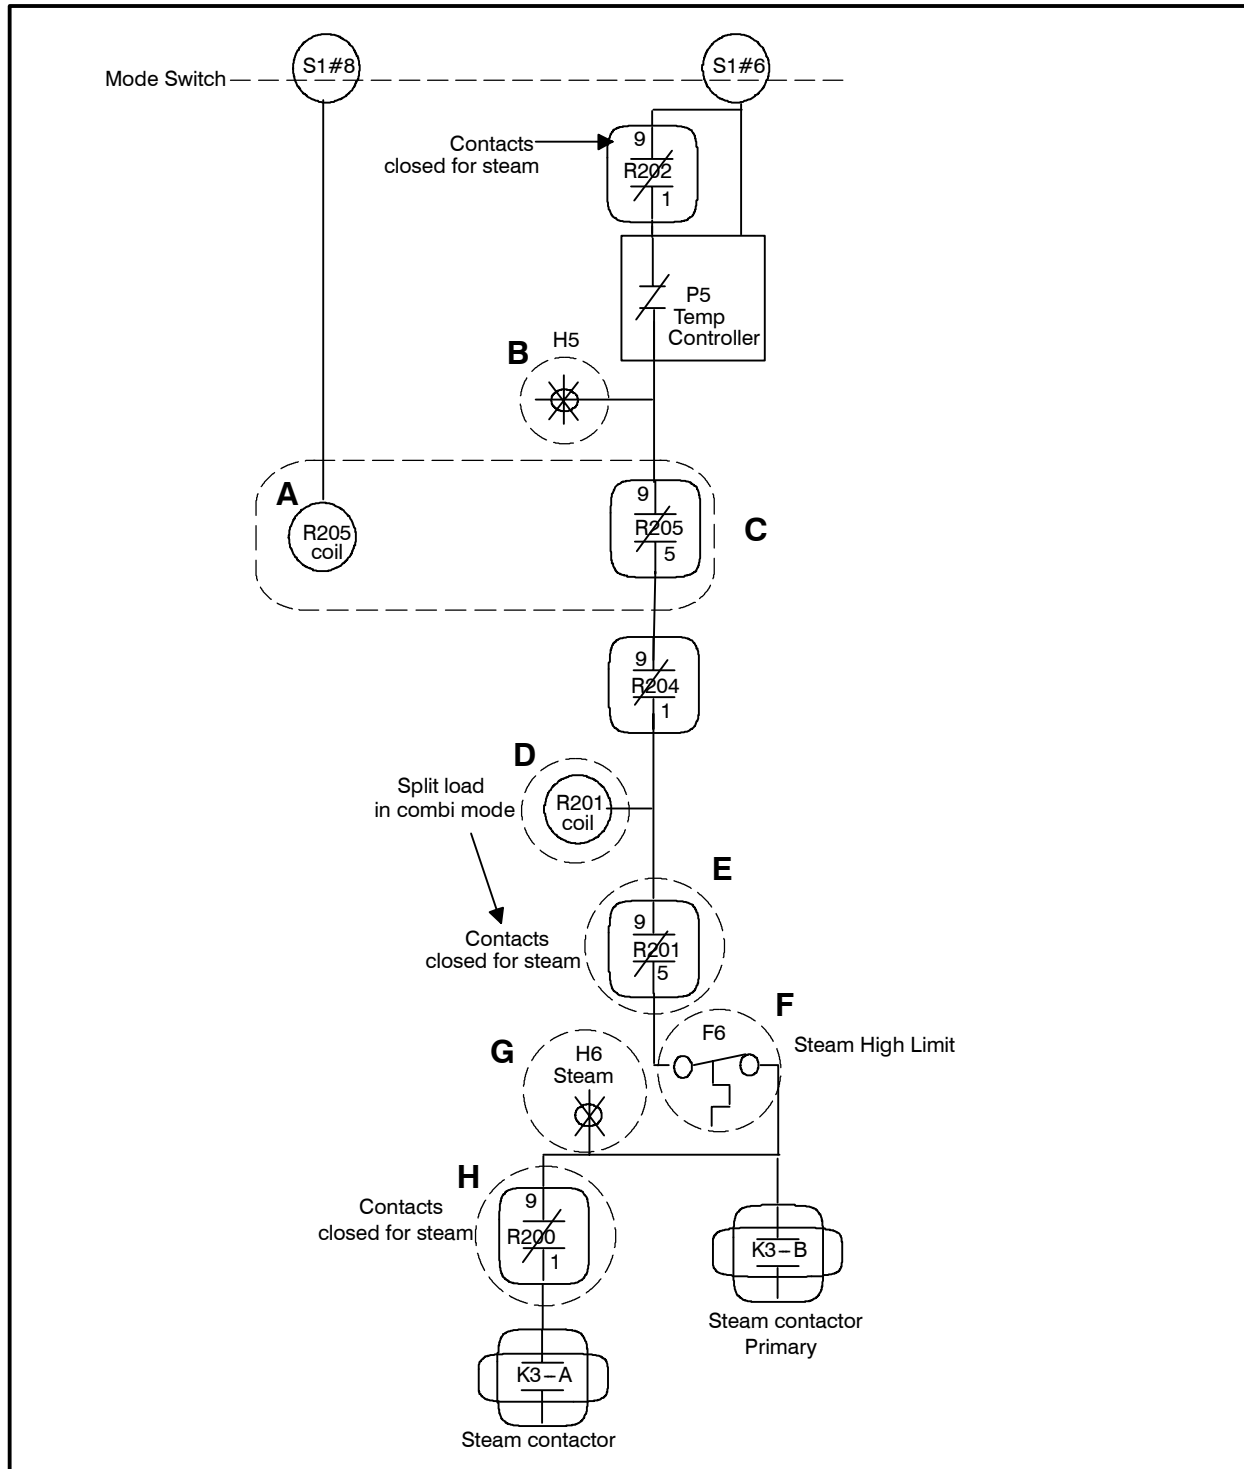

FIGURE 3
4. Check that R202 relay contacts close. See FIGURE 3, location (B).
5. If the hot air light is not lit (H5) on P5, check P5 temp controller for voltage. See FIGURE 3, location (B).
6. Check that relay R205 contacts 9 to 5 are closed. Check coil and contacts for proper operation. See FIGURE 3, location (C).
7. Check F6 high limit. See FIGURE 3, location (F).
8. Check that R204 contacts 9 to 1 are closed. See FIGURE 3, location (E).
9. Check Solid State Contactor K3-B, is red LED on? See FIGURE 3, location (H).
10. Check R200 contacts 9 to 1 are closed. See FIGURE 3, location (H).
11. Check Solid State Contactor K3-A, is red LED on? See FIGURE 3, location (H).